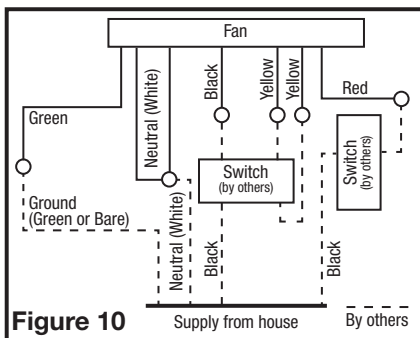

Figure 10
3. **Intermittent Ventilation:** For two speed fans wired for intermittent ventilation with a standard duplex toggle switch (not included), connect the White wires of the fan to the White (Neutral) wire from the power source. Connect the ground wire from the fan to the ground wire from the power source. Properly ground the switches. Connect the black wire from the supply to one side of the top switch. Connect the black wire from the fan to the other side of the top switch. Connect 1 yellow wire from the fan to each side of the bottom switch. The top switch turns the fan On & Off, the bottom switch changes speed between high and low. Using a second properly grounded standard toggle switch, connect the Black wire from the supply to one side of the switch. Connect the Red wire (light) from the fan housing to the other side of the switch (**Figure 10**).